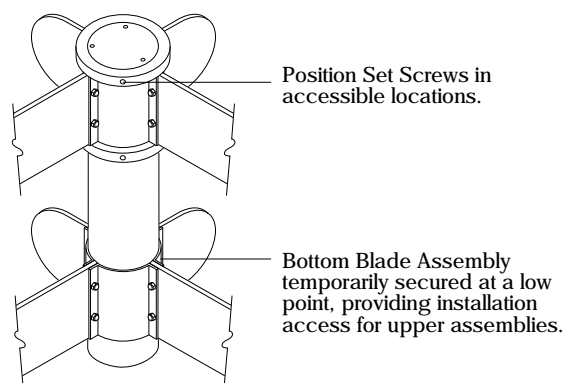

Fig. 6
3. Slide the bottom level Blade Assembly over the Post, positioning it at a point lower than its final location. (Refer to Fig. 6) This will provide space required for assembling the upper levels. Use two 9/16" wrenches (not provided) and temporarily secure assembly to Post.
5. If a Decorative Ring is used at the top, position it accordingly and tighten set screws. Note: Decorative Rings can be attached to Post in virtually any location. However, illustrations of your sign are generally provided for predetermined placement. Also, prior to tightening, it is helpful to assure set screw locations are oriented so as to be accessible with a hex wrench. (Refer to Fig. 6)